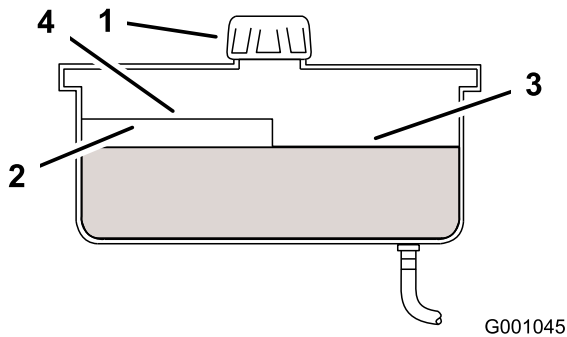

Figure 50
2. Clean the area around filler neck of hydraulic tank (Figure 50).
3. Remove the cap from the filler neck. Look inside to check if there is fluid in the reservoir (Figure 50).
- Note:** The fluid level should be to the top of the hot level of the baffle, when the fluid is hot (Figure 50).